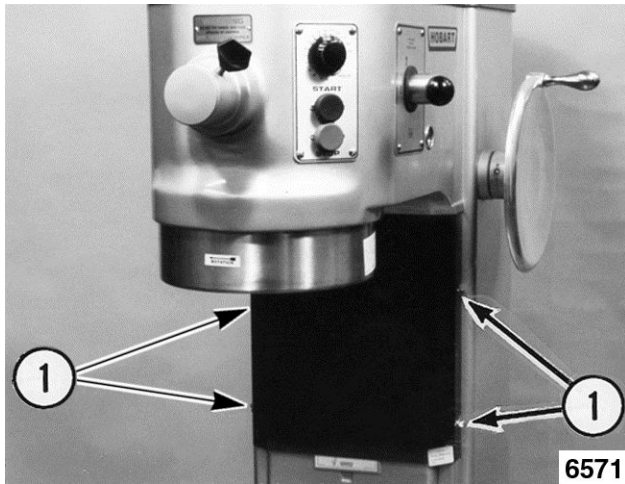

Fig. 8
- B. Remove pedestal apron thumbscrews [1] Fig. 8 (qty. 4).